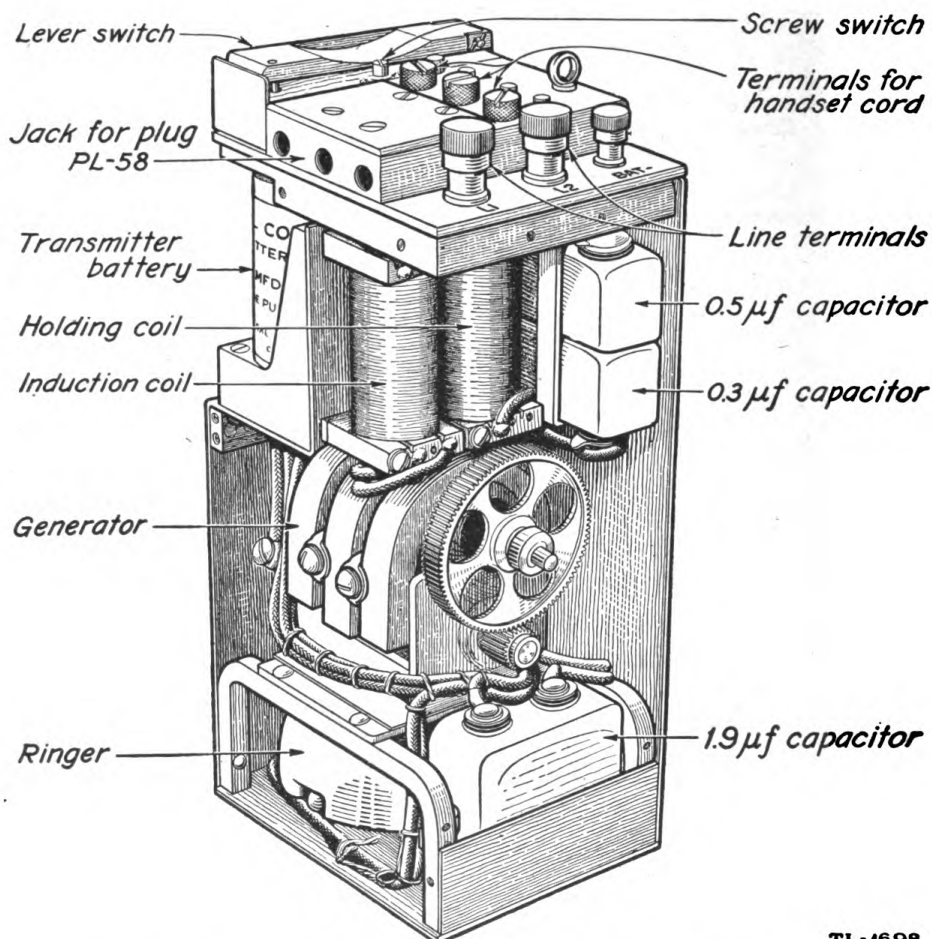

FIGURE 95.—Field telephone EE-8, with side plates removed.
Q. How are the batteries installed in the EE-8 and EE-8A telephones? **A.** Remove the handset from the carrying compartment. Place two batteries BA-30 in the battery compartment (fig. 95), being sure that the bottoms of the batteries rest on the springs and that the tops of the batteries rest against the contacts at the top of the compartment.